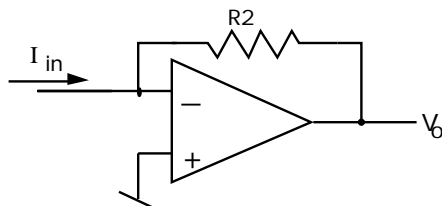

Fig. 3
There are two interesting things to note about the circuit of Fig. 3 and its eqn. (4).